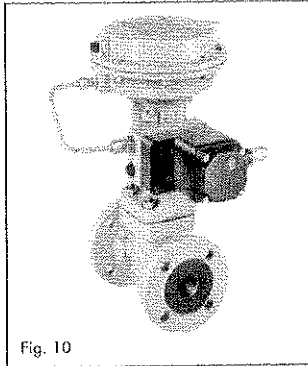

Fig. 10
- Attachment to on-off rotary actuators with NAMUR interface or via adapter plate (Order No. 1400-6751) to linear actuators with NAMUR rib, e. g. SAMSON's Type 241-1 (see Fig. 10)